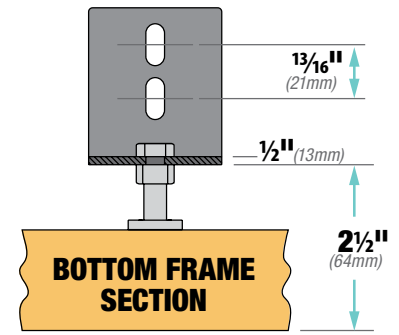

Figure 3
4. Position the lower wall brackets (*with long stud*) so that the stud is inserted into the grommets holes in the bottom frame section. Fasten these brackets to the wall leaving 2 1/2" (64mm) between the bottom of this bracket and the furthest edge of bottom frame section (see Fig. 3).